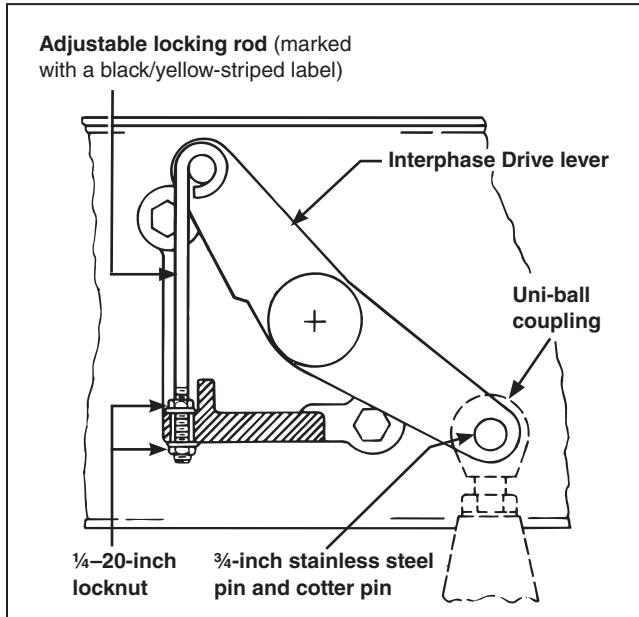

Figure 21. Attaching the Uni-ball coupling to the interphase drive lever.
STEP 1. Attach the uni-ball coupling on the operator connecting link to the interphase drive lever in the high-speed base using the $\frac{3}{4}$ -inch stainless steel pin and cotter pin retained from Step 1 on page 13. See Figure 21. An adjustable locking rod (marked with a black/yellow-striped label) is furnished factory-connected to the interphase drive lever. Turn the associated $\frac{1}{4}$ -20 locknuts as required to raise or lower the interphase drive lever and thus facilitate insertion of the stainless steel pin.
STEP 2. Remove the lower $\frac{1}{4}$ -20 locknut that retains the adjustable locking rod, and remove and discard the adjustable locking rod and locknuts. See Figure 21.